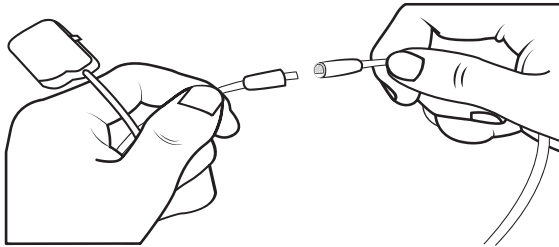

Figure 15. 8 Contact O.R. Cable and Extension
1. Attach the O.R. Cable Extension to the O.R. Cable (Figure 15).